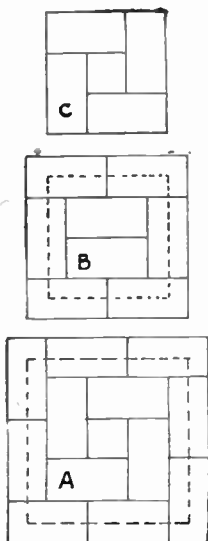

Fig. 3—Showing the brick courses in the pedestal
Keep turning over the mixture until all is thoroughly wet and of an even moisture. Decide on the actual direction of the pedestal and set out a square of approximately 22½ins. This is for the lower member of the base as (A) in Fig. 2 and Fig. 3.
Now for the actual pedestal which is ten courses of bricks high, or about 2ft. 6ins. Four bricks are required here for each course and plan (C) in Fig. 3